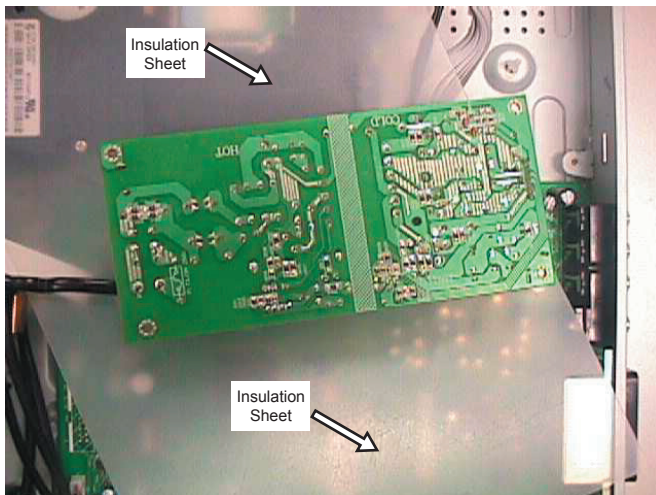

Figure 9- PSU Board service position (Beware of the cable connection to ANABE Board)
- 2) Service Position for PSU Board 1002 is shown in figure 9.